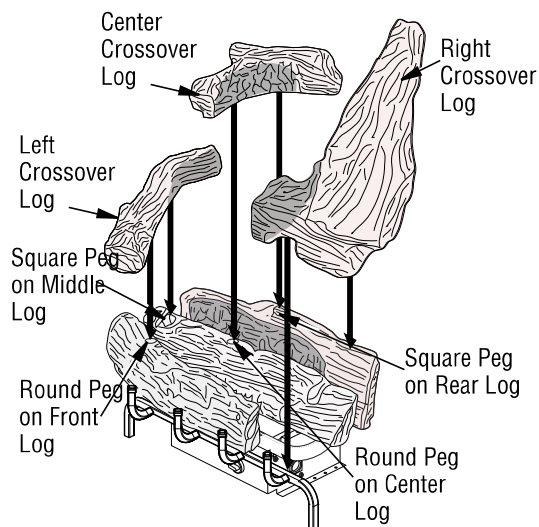

Figure 20 - Installing Left, Center and Right Crossover Logs
4. Place left crossover log as shown in **Figure 20**. Match square peg on top of center log with square hole on bottom of left crossover log. Match pin on top of front log with round hole on bottom of left crossover log.
5. Place center crossover log as shown in **Figure 20**. Match square peg on top of rear log with square hole on bottom of center crossover log. Match pin on top of center log with round hole on bottom of center crossover log.
6. Place left front crossover log as shown in **Figure 20**. Log should rest on the grate and fit into recess area on the center log.